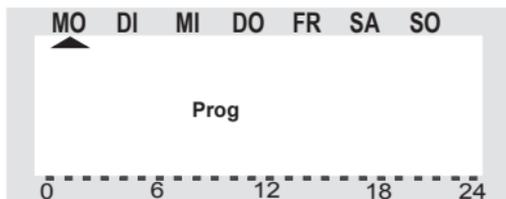

Figure 20
- '**Prog**' appears on the LCD and the '**▲**' arrow points to '**MO**' (**MO**nday). See figure 20.